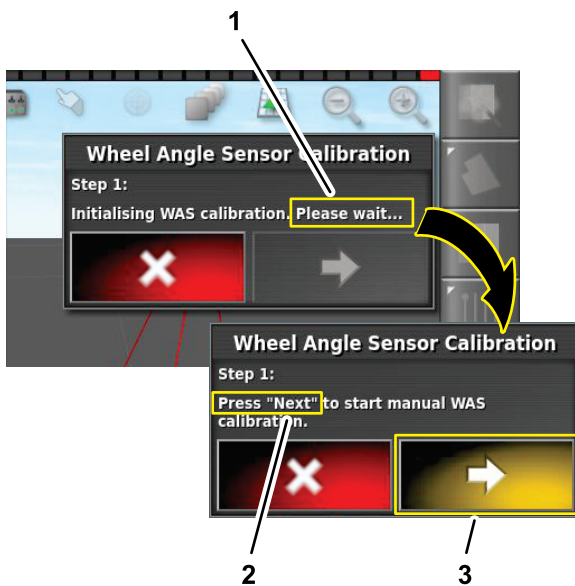

Figure 162
5. At step 1, wait until the wheel angle sensor calibration initializes, and press the next step icon (Figure 162).